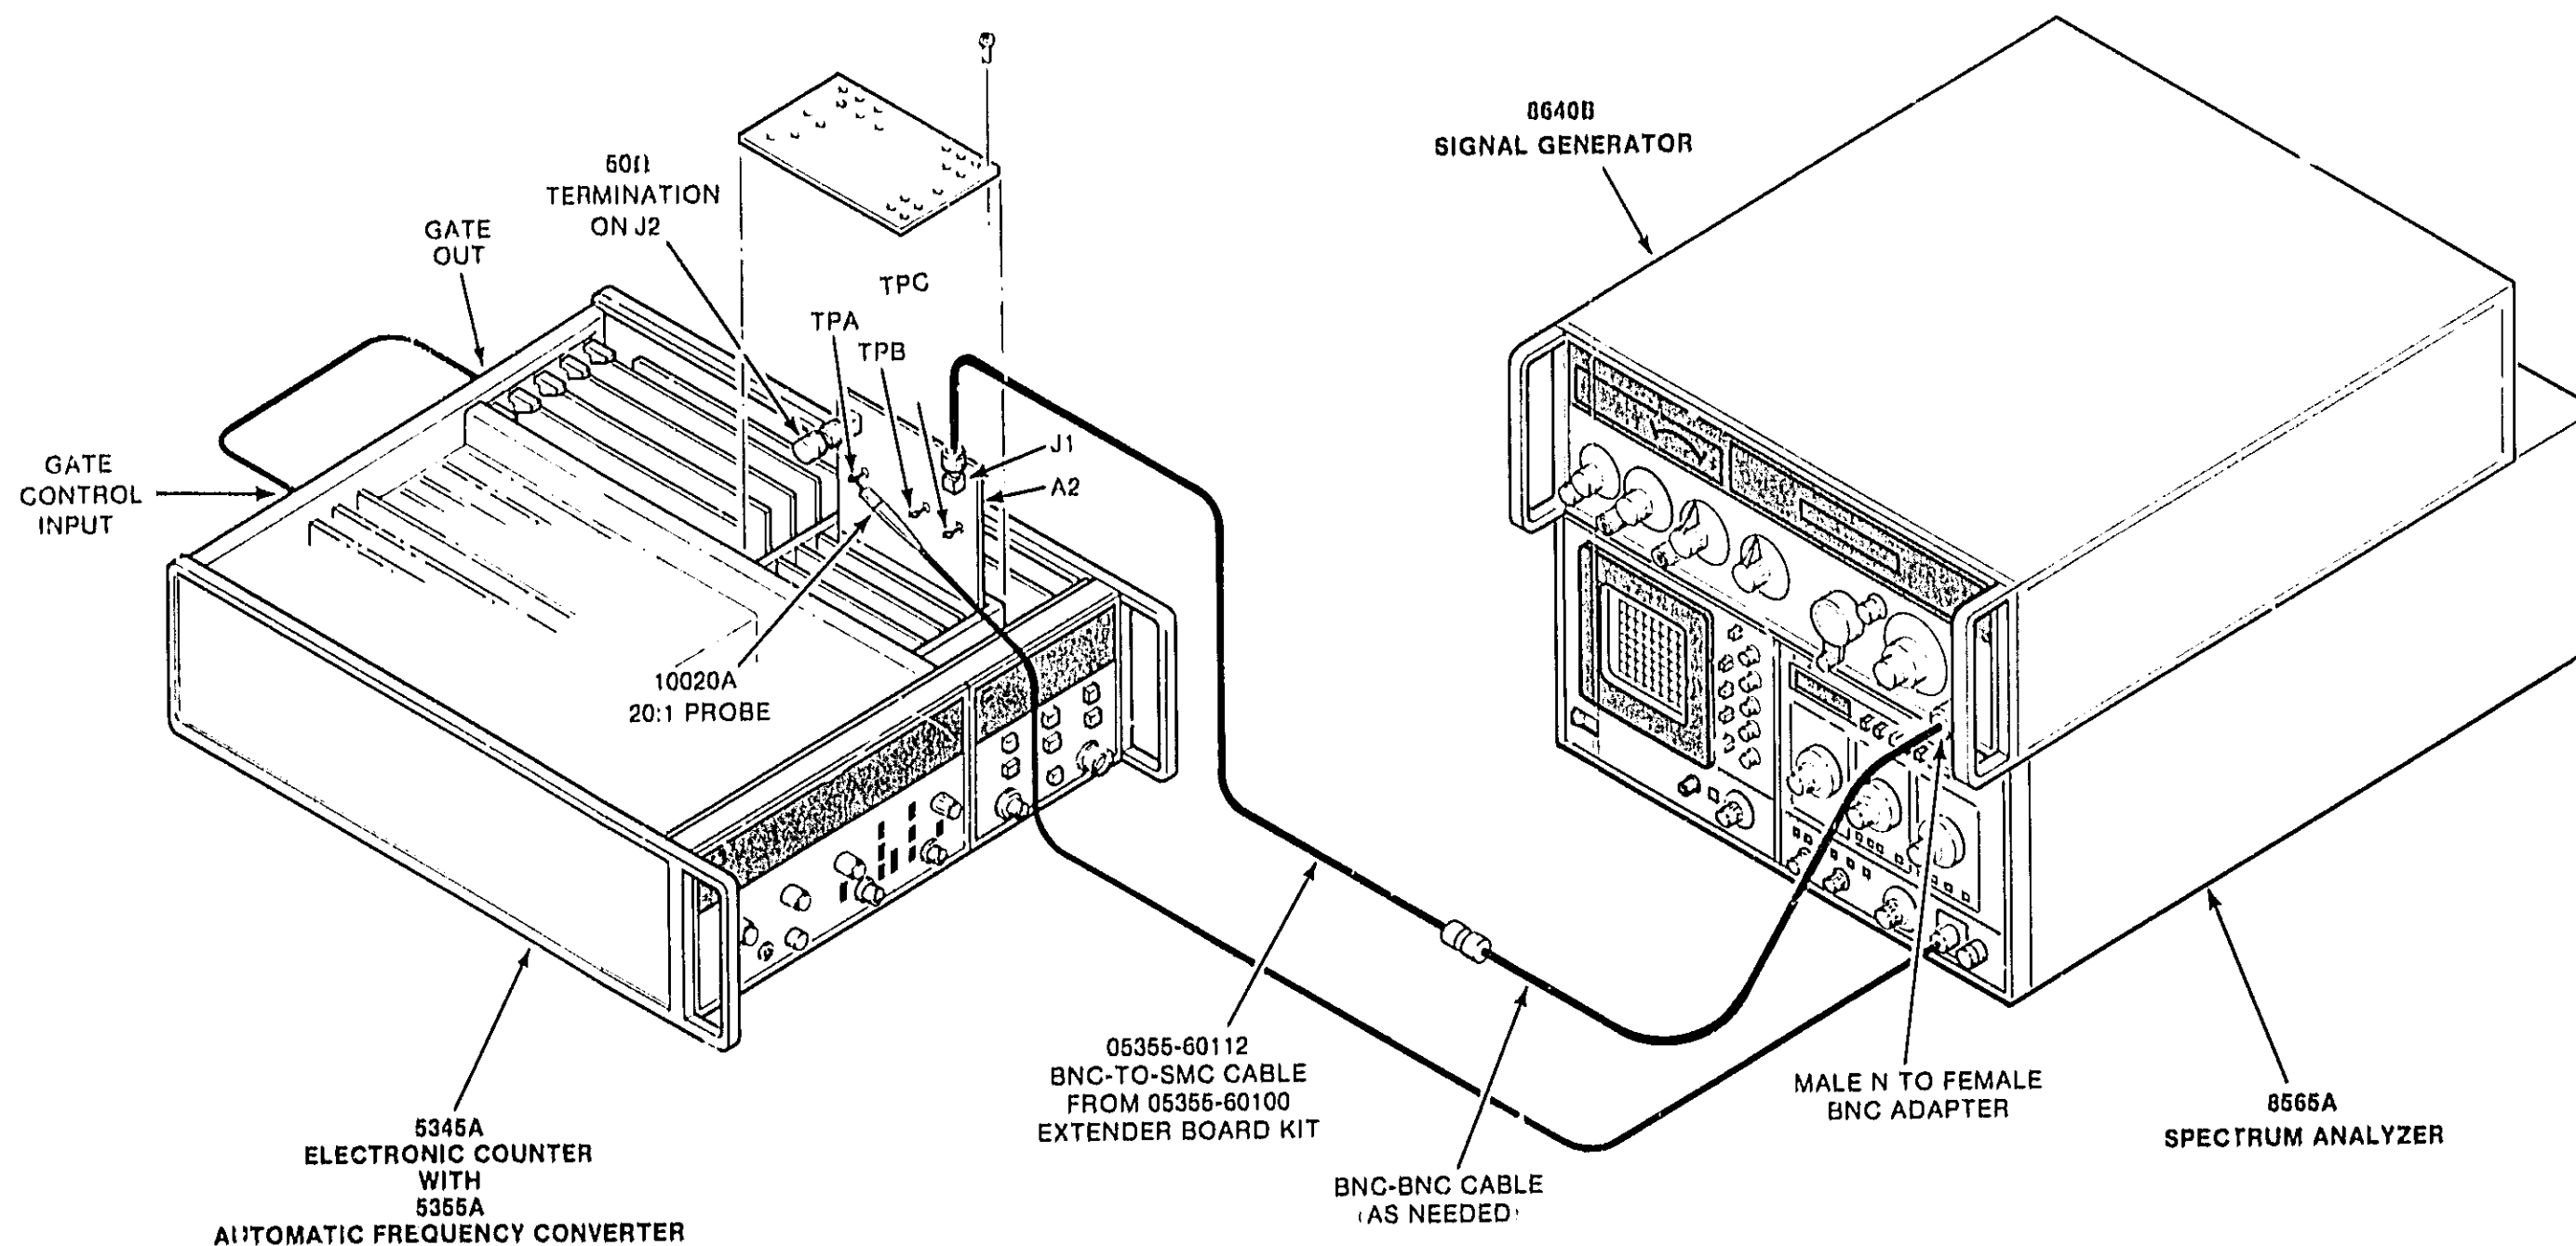

Figure 5-4. Amplifier DC Current Balance Adjustment Setup
- b. Connect the test equipment as shown in Figure 5-4.